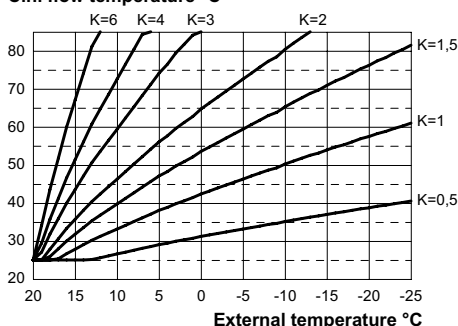
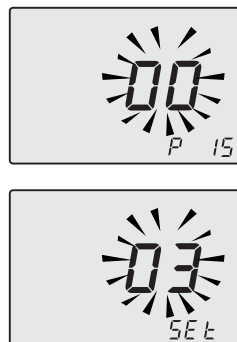

Fig. 7.19
Fig. 7.23
If the boiler is **EQUIPPED** with the remote control (optional) refer to Fig. 7.19. In this case K setting must be done from the remote control.
When installing the external probe it is necessary to set this parameter based on the efficiency of the heating plant in order to optimise the flow temperature (Fig. 7.19).
E.g. In order to have a flow temperature at the heating plant of 60°C with an external temperature of -5°C, set a K at 1.5 (sectioned line in Fig. 7.19).
- Using keys 15 or 16 it is possible to change the value of parameter 15 from a minimum of **01** to a maximum of **60** based on the selected bend of the K coefficient in Fig. 7.19 (the value read on the display corresponds to K coefficients decimal values). The writing **P15 - SEt** alternates on the display (Fig. 7.23).